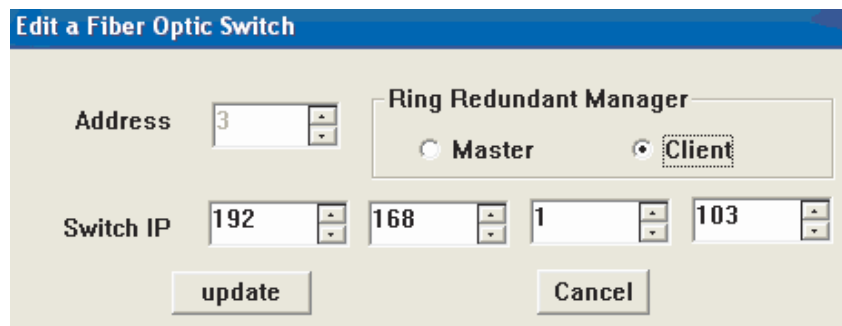

Figure 40
3. An update window displays as shown in Figure 40 except that the address field is disabled.